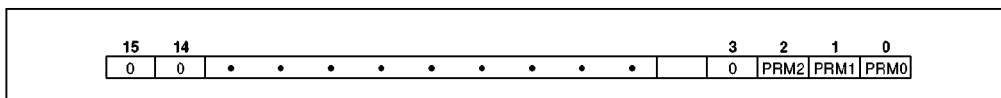

Figure 26. Priority Mask Register Format
This register is used to mask all interrupts below particular interrupt priority levels. The format of this register is shown in Figure 26. The code in the lower three bits of this register inhibits interrupts of priority lower (a higher priority number) than the code specified. For example, 100 written into this register masks interrupts of level five (101), six (110), and seven (111). The register is reset to seven (111) upon RESET so no interrupts are masked due to priority number.